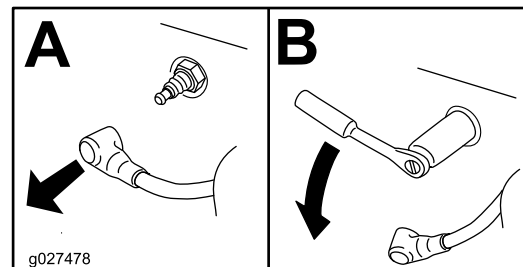

Figure 41
4. Remove the spark plug(s) as shown in Figure 41.